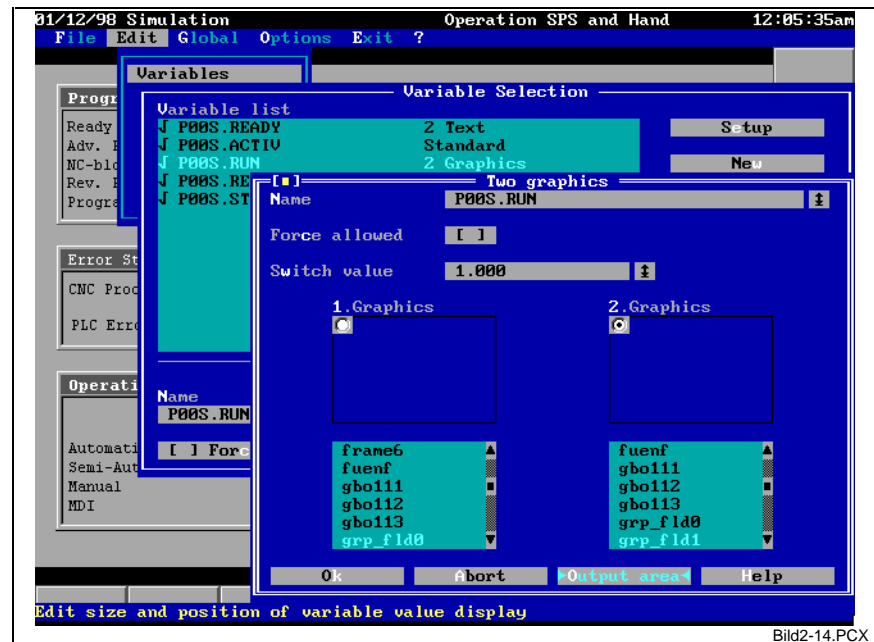

Fig. 2-14: Dialog for a '2 graphics' display element
- Surely the most demanding method is using '2 graphics' for representing the variable value. Those graphics are, analogous to the '2 texts', toggled when the switchover value is reached. Fig. 2-14 shows the related dialog.